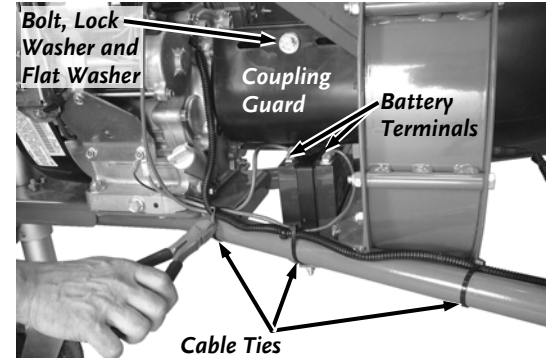

Figure 48
1. Disconnect the Battery Positive and Negative Cables by pulling them from the Terminals (**Figure 48**).